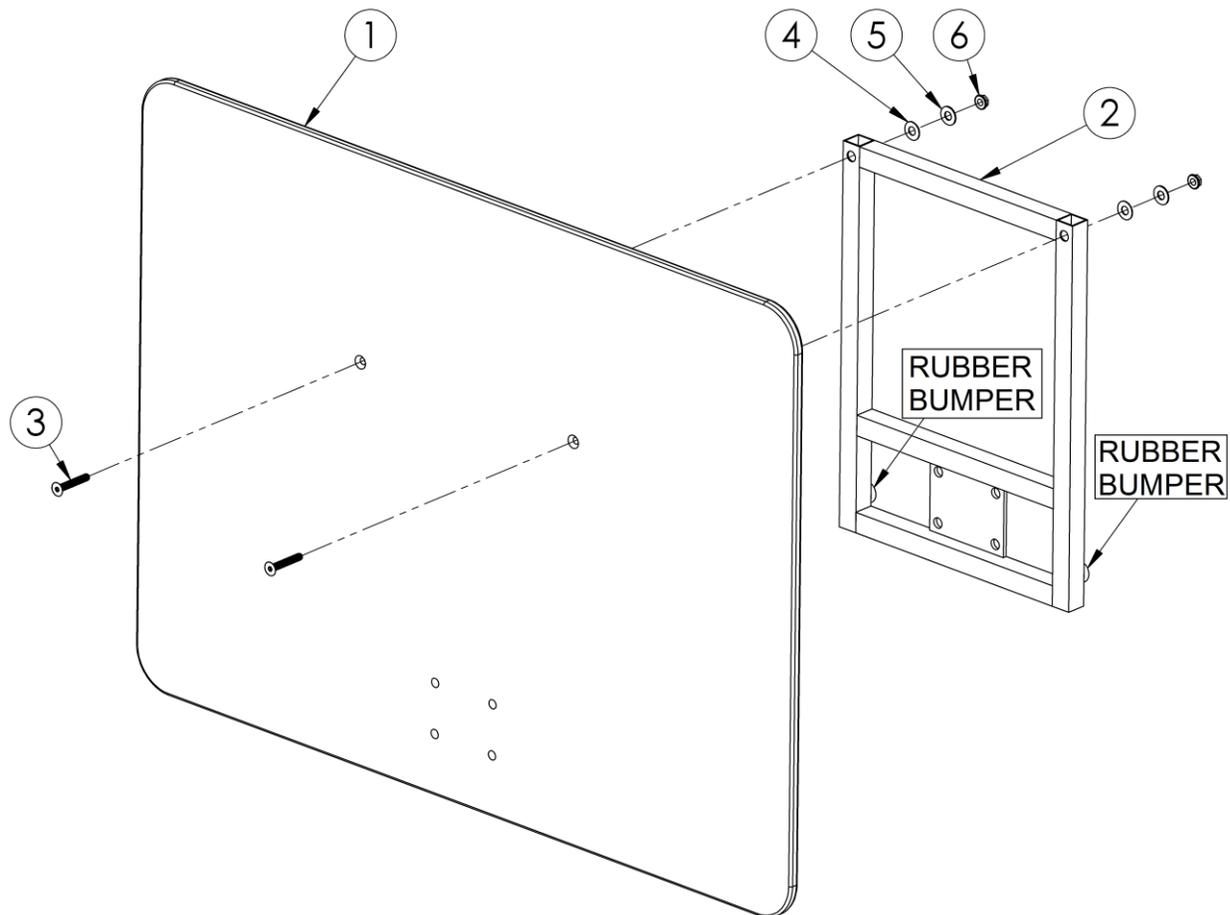

Fig. 4
1. Assemble the Acrylic Backboard (1) to the Square Frame (2) with the 5/16"-18 X 2" Flat Socket Head Cap Screw SS (3), 3/8" Nylon Washer (4), 3/8" Flat Washer SS (5), and 5/16"-18 Flanged Nut SS (6), as shown in **FIGURE 4**. **DO NOT SET THE BACKBOARD ON CONCRETE OR OTHER ROUGH SURFACES.** Cardboard from the packaging is a good surface to work on. Do not fully tighten any of the hardware until all parts are assembled.